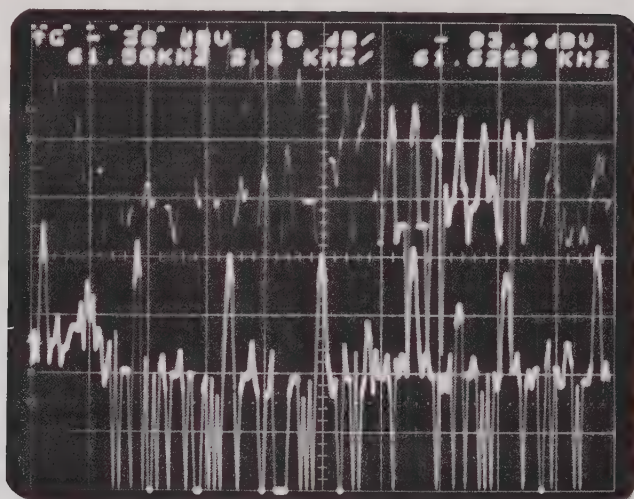

Fig. 4-15a Effects of Smoothing; Smoothing: None
- c. Rotate RESOLUTION to 125 Hz (25 KHz SPAN) and STARTING FREQUENCY to 61.5 KHz. Toggle the SPECTRUM GAIN switch upwards three (3) times. The word TUNING will appear on the CRT instead of the frequency scale sensitivity, and a "G" will also appear, indicating that the SPECTRUM GAIN is used. The word TUNING is used to indicate that either or both the RESOLUTION and STARTING FREQUENCY controls were moved. Press START/STOP and move BACKGROUND-DISPLACEMENT up twice. The baseline of spectrum will be noisy (Fig. 4-15a).